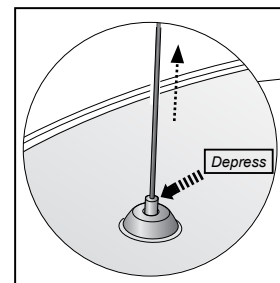

Figure 6: Cable Extension
5. Depress the nozzle of the ball shaped wire catch located on the pendant to add length of steel wire as required. [Figure 6]